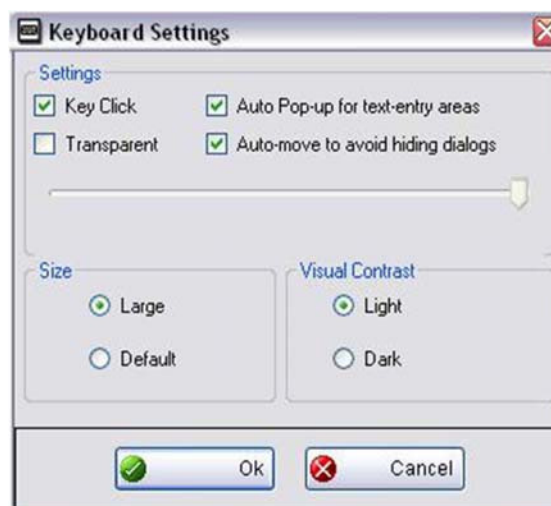

Figure 3-7 Virtual Keyboard settings window
- **Shortcut (S) button** - choose the **Keyboard** icon from the Shortcut (S) button menu
- **Settings** - opens the Virtual Keyboard settings window (Figure 3-7)
1. **Settings icon** - opens the Virtual Keyboard settings window (Figure 3-7)
The Virtual Keyboard can be set to open automatically, when a data field or form is selected in certain applications. See the Settings window (Figure 3-7) for selection options.